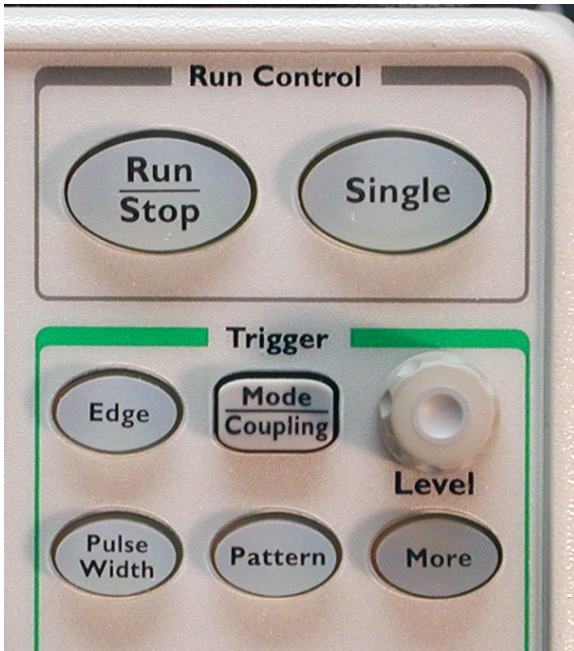

Figure 12: Agilent triggering controls
5. In the trigger section of the controls (Fig. 12), press the “Edge” button.